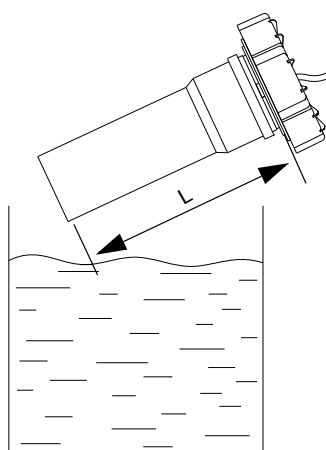

Fig. 11 Pressure tube length
4. Enter into the PC Tool program the length [L] (mm) of the pressure tube according to the list below and press "OK". See fig. 11.